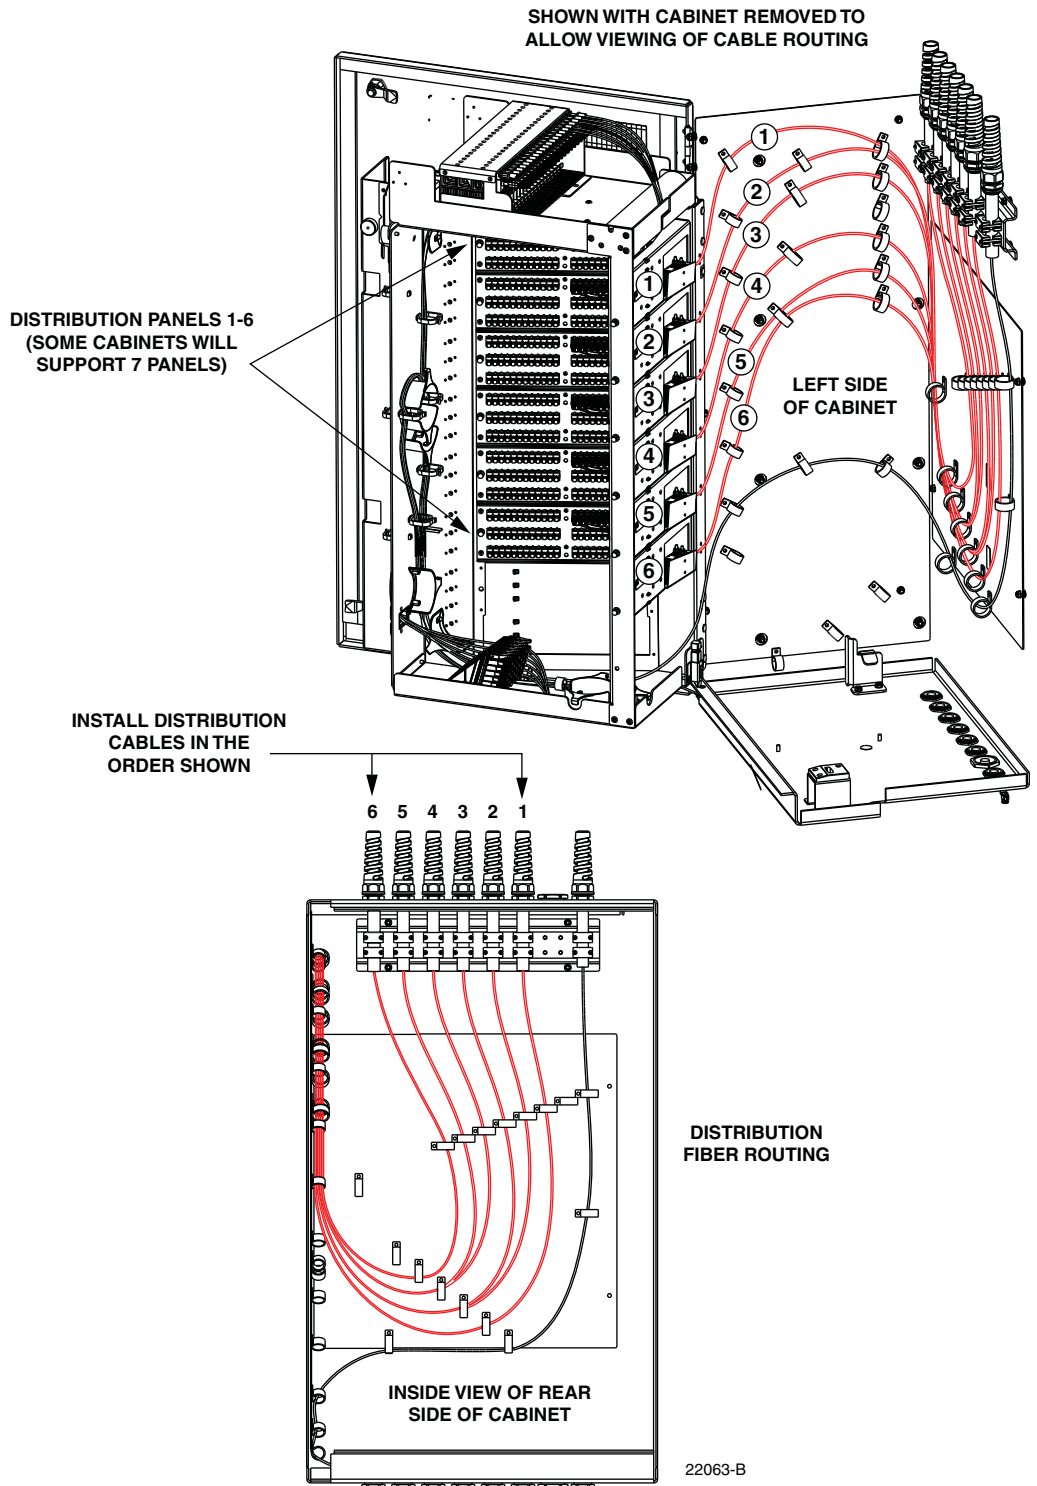

Figure 49. Distribution Cable Fiber Routing
10. Route and secure the distribution cable subunit fibers across the side and back of the cabinet as shown in Figure 49. The routing paths are numbered to correspond to the distribution panel/cable number.